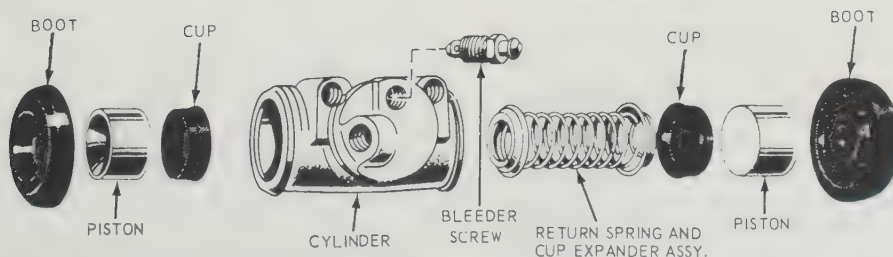

Fig. 9.14. Exploded view of rear brake wheel cylinder (Sec. 11)
- To dismantle the wheel cylinder, first remove the rubber boot from each end of the cylinder and push out the two pistons, cup seals and return spring (see Fig. 9.14).